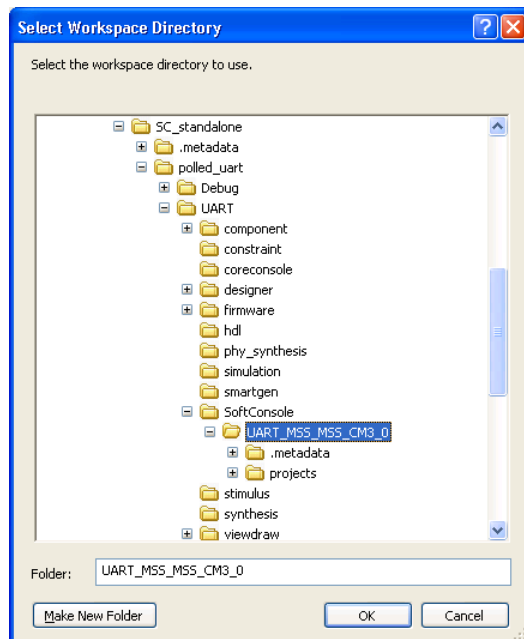

Figure 13 · Specifying the Workspace
1. Invoke the SoftConsole project generated by Libero SoC v10.0 using **File > Switch Workspace > Other...** and browse to the SoftConsole workspace as shown in Figure 13.